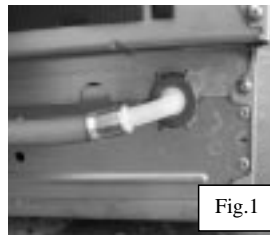
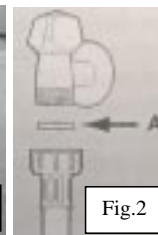

Fig.1
Fig.2
Is the water inlet hose connection secured at rear of machine (Fig1) and has filter washer (A) been fitted (Fig2)?